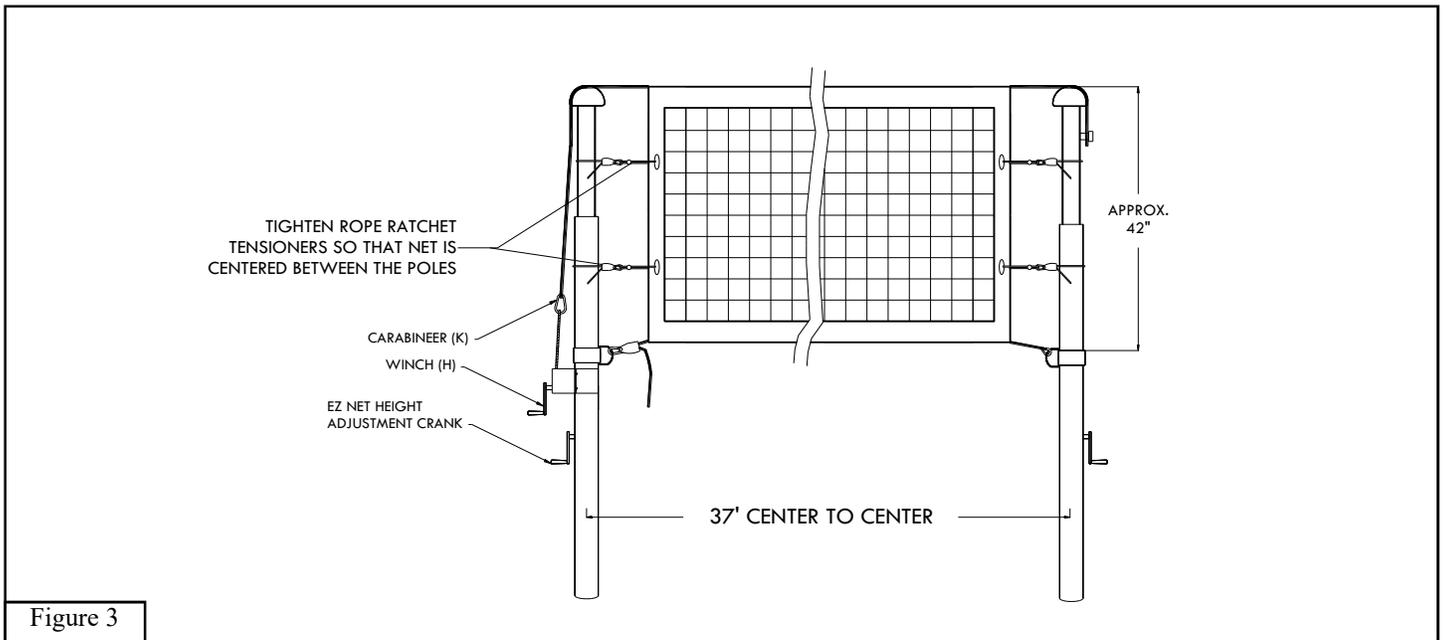

Figure 3
4. Turn the winch handle tightening the top rope of the system to eliminate the slack in the rope. Center the net between the two *Standards (A)*. Finish tightening the top rope using the *Winch (H)* and pull the loose end of the bottom rope through the *Rope Ratchet (N)* to tighten the bottom rope. See Figure 3.
10. Once you have set the adjustable foot you can raise and lower the *VB1250K Net (F)* under tension using the EZ net height adjustment crank. *VB1000 Systems* is designed to allow minor net height adjustment without removing tension from the net. Do no attempt to raise the net more than 1/2" or lower the net more than 1" without reducing the net tension. One full revolution equals approximately 1/16". Additionally you can make slight modifications to fine tune the net height by raising and lowering the collars, by tightening/loosening the winch, and by adjusting the tension on the side rope ratchets if necessary. See Figure 3.